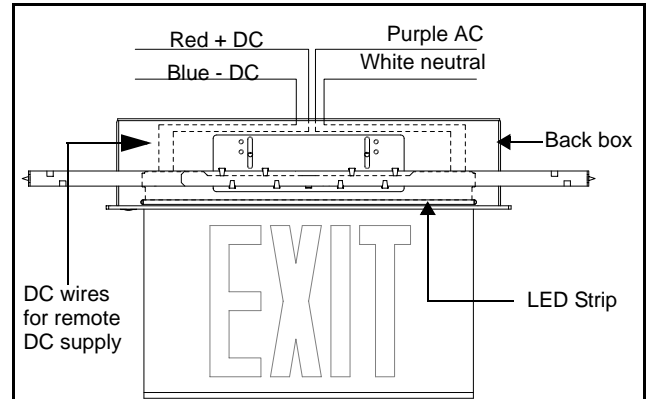
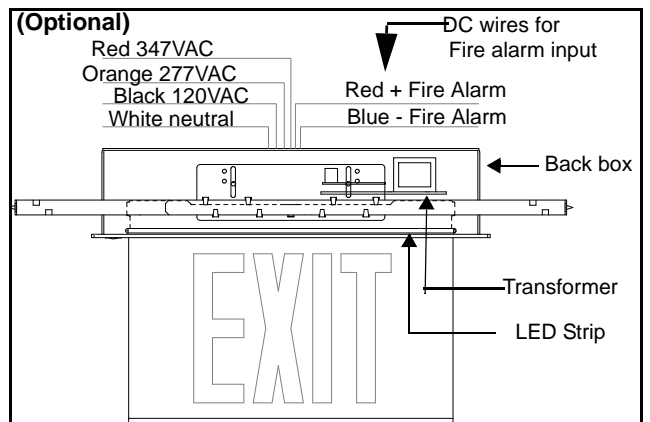

Figure 3 (Regular models)
Figure 4 (Models with diagnostic feature)
5. **Electrical connection (Figures 3,4)**
- b. Make the proper connections. Our system can accept input voltages of 120 VAC to 347 VAC. For regular models connect the purple (hot) and white (common) leads to the building utility (Figure 3). For models with diagnostic feature connect the white (common), black (120 VAC) or orange (277 VAC) leads to the building utility (Figure 4).